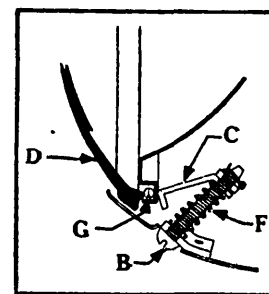

Figure 4.
Figure 4 shows the locking screw "B" and wedge "C" released, and in a position to permit of the removal of the lens.
1. Turn the locking screw "B", Figure 4, to the left, until the small cotter pin in the end of the screw is felt to bottom on the wedge nut. (WARNING: Stop turning when you feel the cotter pin touch; otherwise the pin will be sheared off. Our engineers find that on an average about nine complete turns of the screw "B" will either lock or unlock the assembly.)
2. Check position of locking wedge or bracket "C", to make sure that it is close up to the cotter pin as shown in Fig. 4. This is important, as the wedge must be in this position when the lens is later replaced.